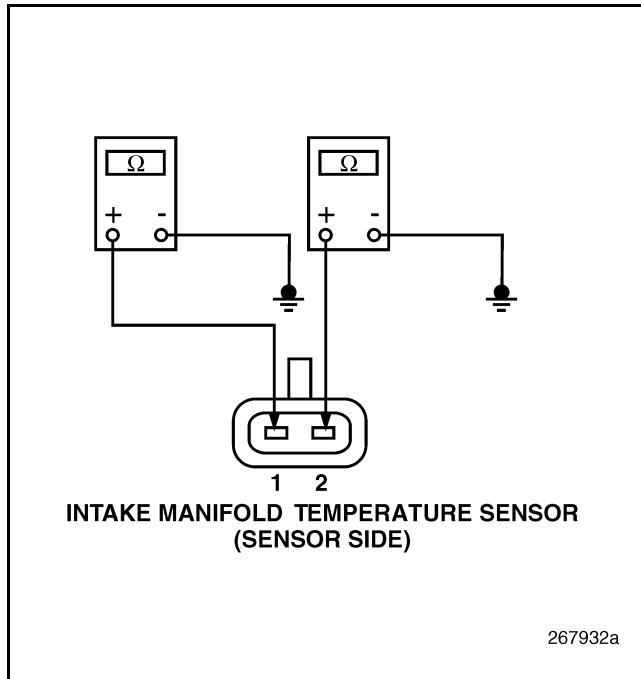

Figure 210
3. Check for continuity between either pin of the IMT Sensor and a good ground (see Figure 210).